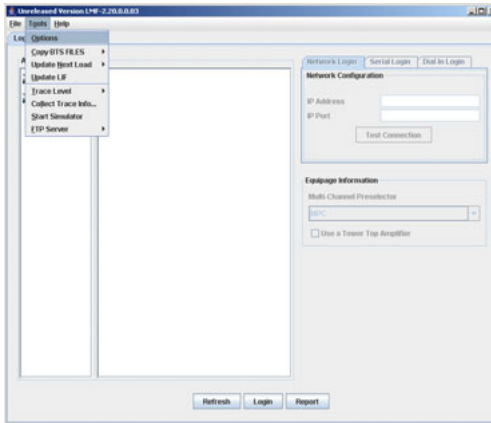

Figure 1-10. BTS Master Ethernet Configuration Editor
2. Click on Tools and then click on Options as shown in Figure 1-10.